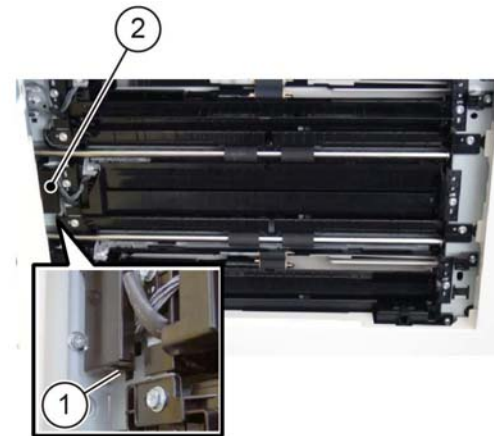

Figure 1 ESD cover removal
4. Remove the ESD cover, Figure 1:
- a. Disengage the hook (1)
- b. Remove the ESD cover (2).